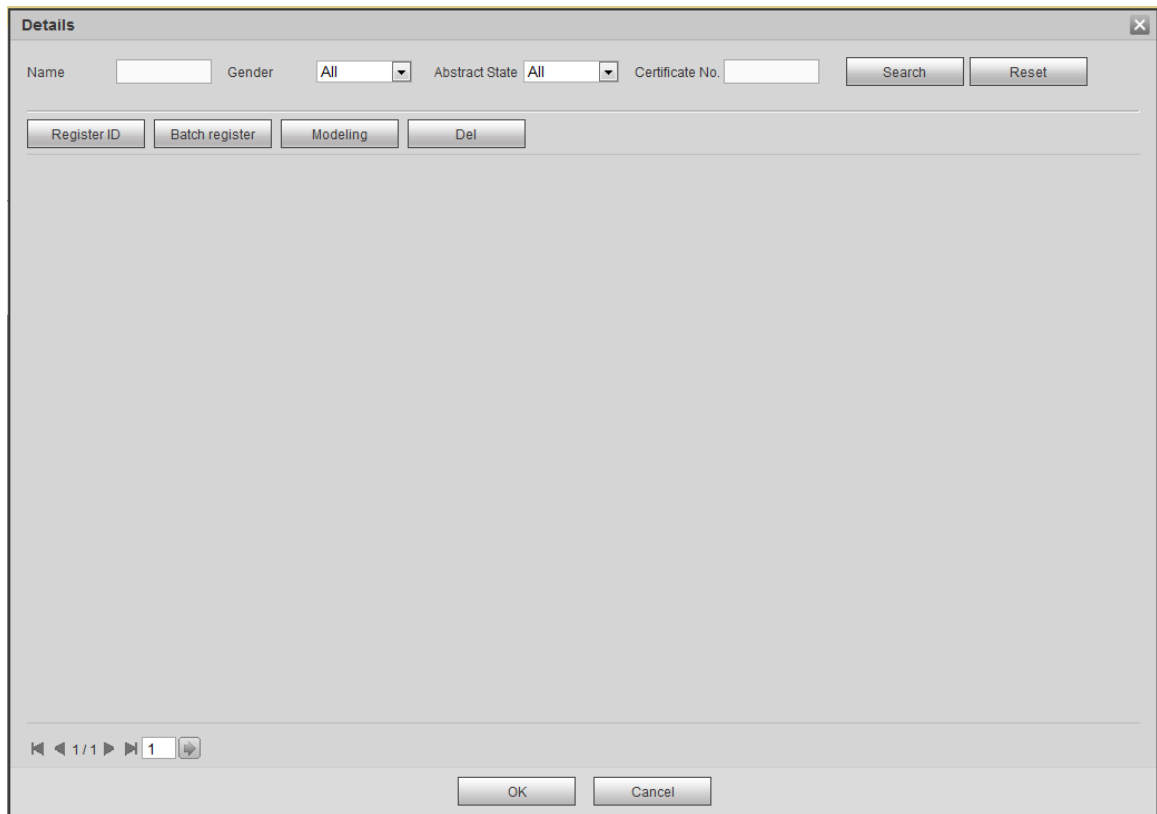

Figure 5-84
The Details interface is displayed. See Figure 5-84.
2. In Figure 5-84, click Batch Register.